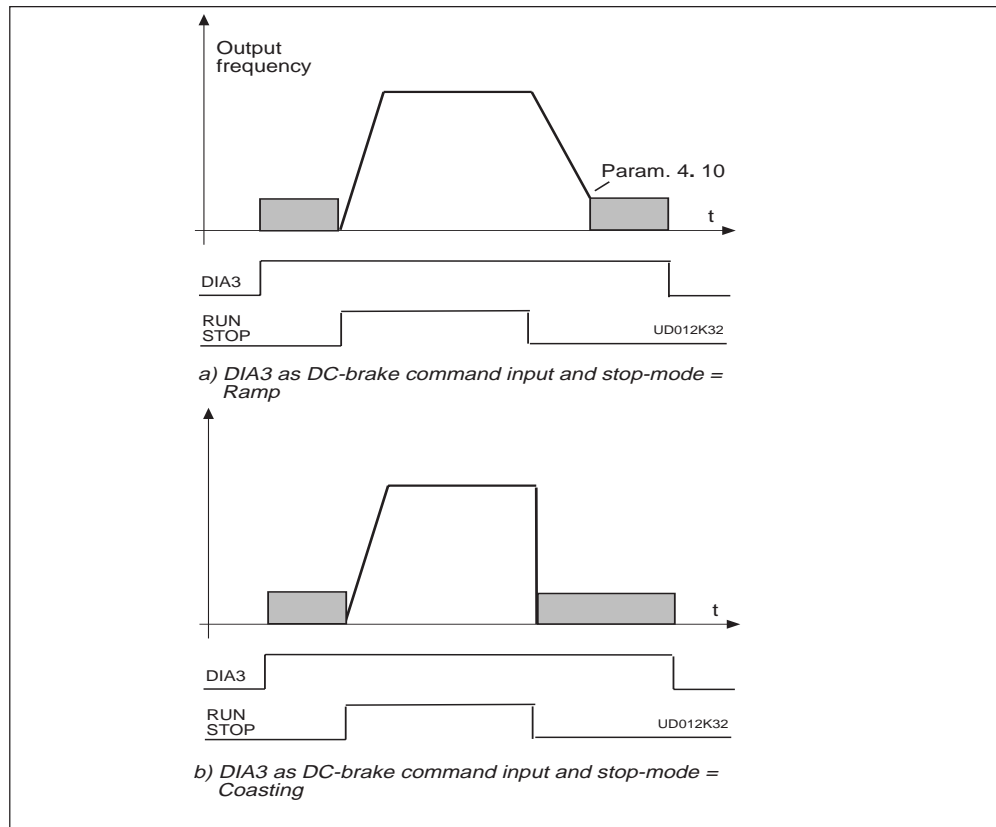

Figure 5.5-4 DIA3 as DC-brake command input: a) Stop-mode = Ramp, b) Stop-mode = Coasting.
- 9: DC-braking command contact closed = In Stop mode, the DC-braking operates until the contact is opened, see figure 5.5-4. DC-brake current is set with parameter 4. 8.